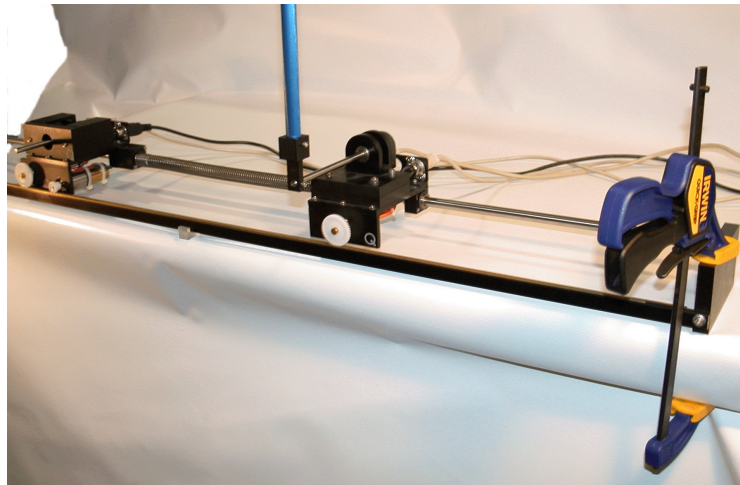

Figure 6 Default Configuration of the LFJC-PEN-E-Plus-SIP-Plus-IP02 Plant
Figure 6 illustrates the mounting and assembly, in the default configuration, of the LFJC-PEN-E-Plus-SIP modules with an IP02 cart-and-track system.
The default configuration is depicted in Figure 6 and can be described as follows:
- Step 8. You should also clamp the IP01 or IP02 track down to the table using its end plates, as pictured in Figure 6.